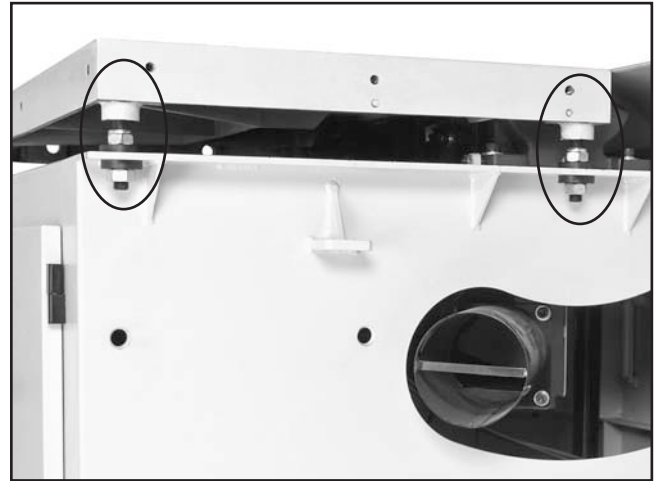

Figure 112. Main table mounting fasteners.
4. Remove the four hex nuts and spacers from the bottom of the studs that secure the cast iron table to the cabinet (see **Figure 112**).
Important: The position of the four upper lock nuts were set at the factory so that the cast iron table is square with the saw blade from side to side and back to front. DO NOT change the position of these lock nuts (see **Figure 112**). Otherwise, you will have to perform the time consuming procedure of bringing the table back to square with the blade.